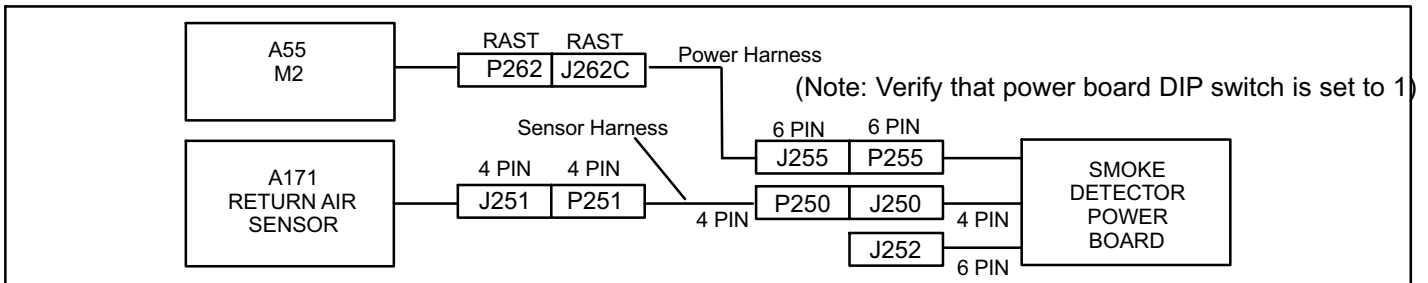
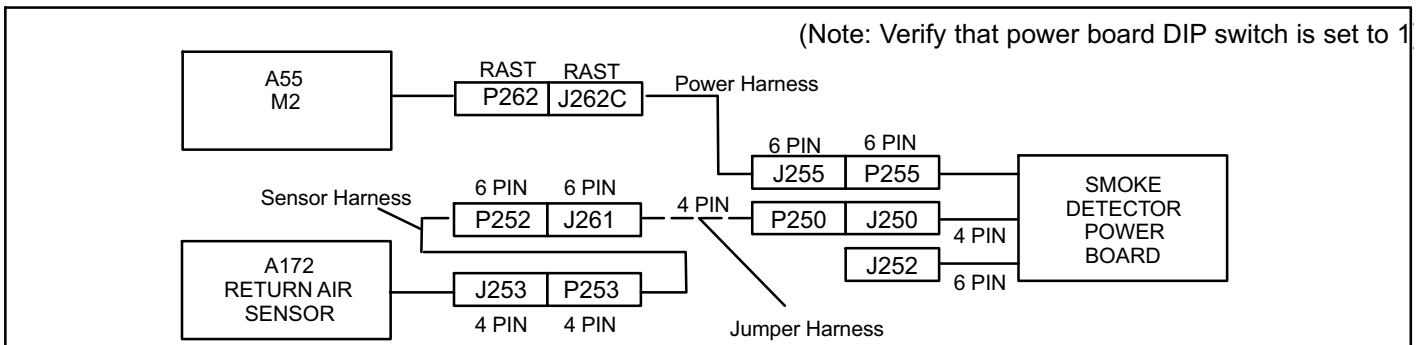
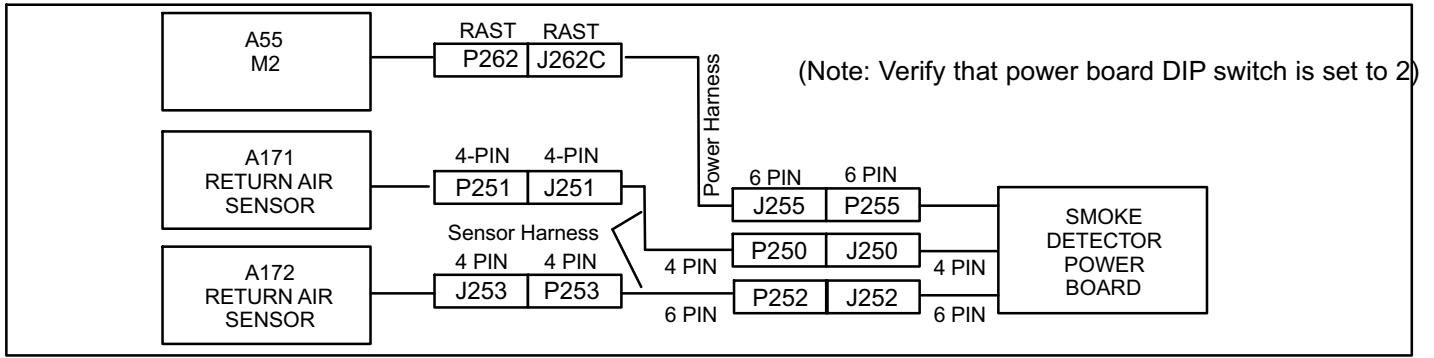

Figure 6. Unit application with Return Air Smoke Detector only
Figure 7. Unit application with Supply Air Smoke Detector only
Figure 8. Unit application with Return and Supply Air Smoke Detectors
1. Make jack/plug connections as shown in figure 6 when installing return air smoke detector only, figure 7 when installing supply air smoke detector only, and figure 8 when installing both supply and return air smoke detectors.